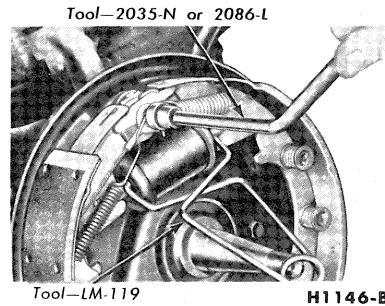

FIG. 4—Typical Retracting Spring Removal
1. With the wheel and drum removed, install a clamp over the ends of the brake cylinder as shown in Fig. 4.